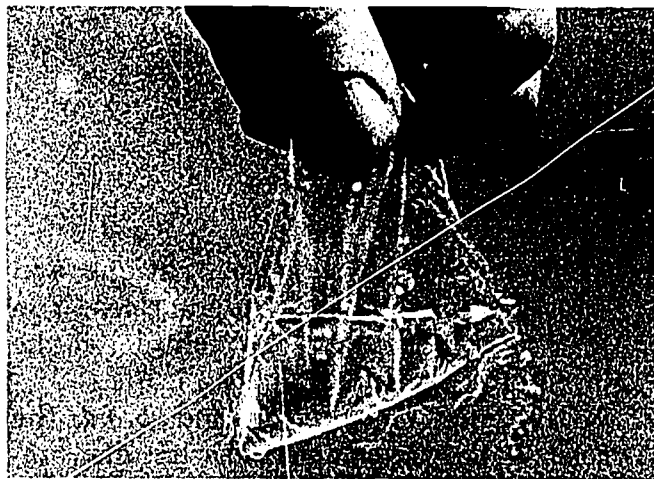

Fig. 119-4. Testing Bag
7. Test the new plastic bag by filling it with water. See Fig. 119-4.